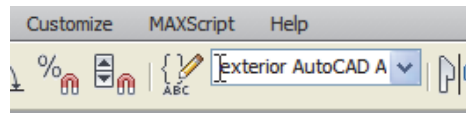

Figure 3–42
7. In the Front viewport, select all of the objects by creating a window around the objects. In the Main toolbar, in the *Named Selection Sets* field, enter **exterior AutoCAD Architectural building**, as shown in Figure 3–42 and press <Enter>.